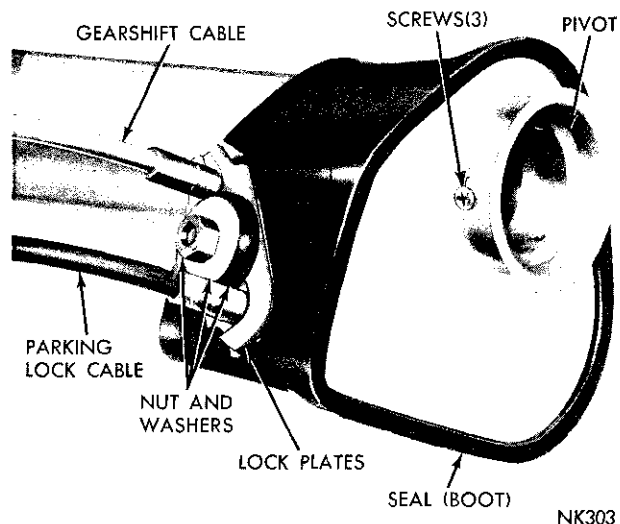

Fig. 7—Removing or Installing Steering Column Lower Plate
(4) Remove plate and seal washer from the sprag lever pivot at lower end of the column (Fig. 7). Remove the cable lock plate retaining nut and washers.
(13) Install the column jacket lower seal and plate, and secure with the three screws. Position edge of seal boot over the plate flange (Fig. 7).